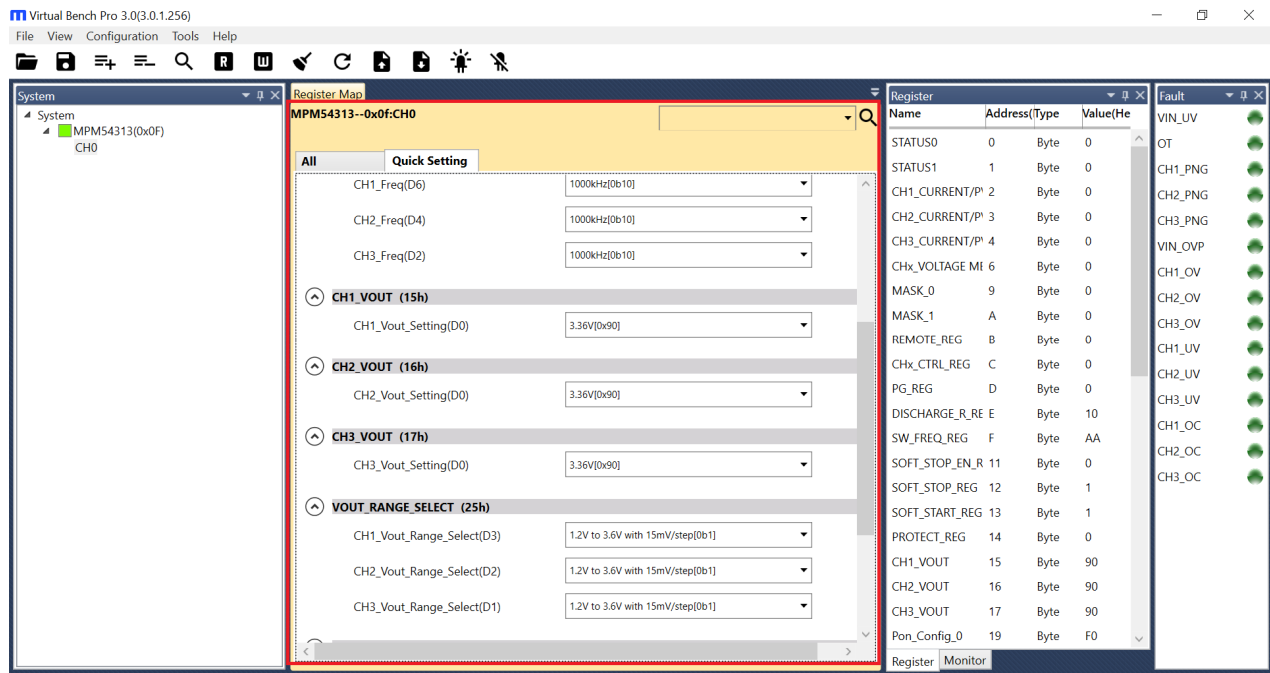

Figure 4: The Register Control Menu
- The Register Control menu should appear in the middle panel (marked in red), and the values stored in the module registers should be read automatically (see Figure 4).